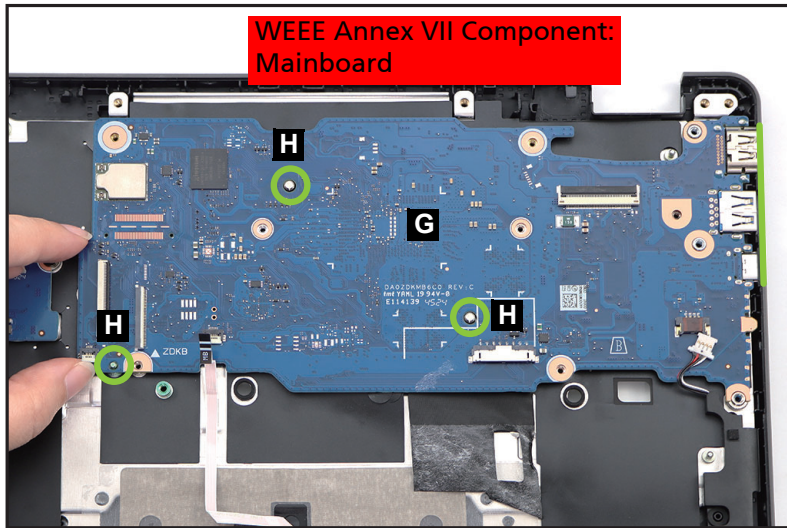

Figure 3-26. Mainboard Removal
7. Release the mainboard (G) from the I/O ports slots and guide pins (H) on the top assembly (Figure 3-26). Then remove the mainboard.